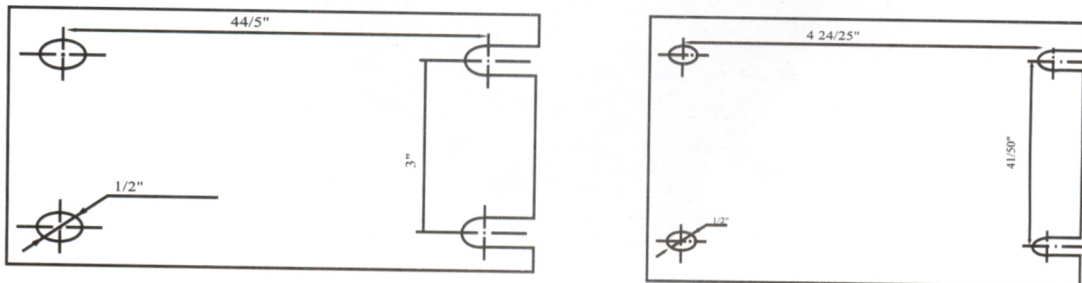

Figure 3
1. *The reel base has four 1/2" (or 12.7mm) drilled holes for mounting on a suitable flat surface. Figure 3 is a template showing the correct location of the 4 mounting holes in the base.*